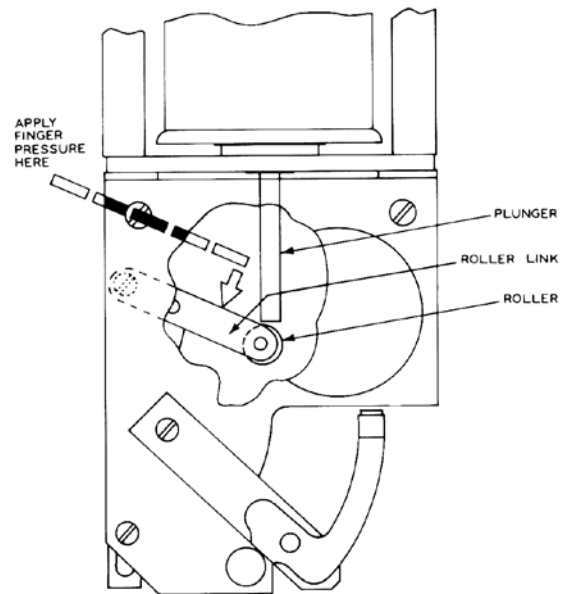

Figure 7. Final check of plunger operations.
- A. With the recloser still locked-in (yellow operating handle in the CLOSED position), insert two fingers into the back of the contact box assembly and push down on the roller link until the contacts open (Figure 7). The plunger will drop down to follow.